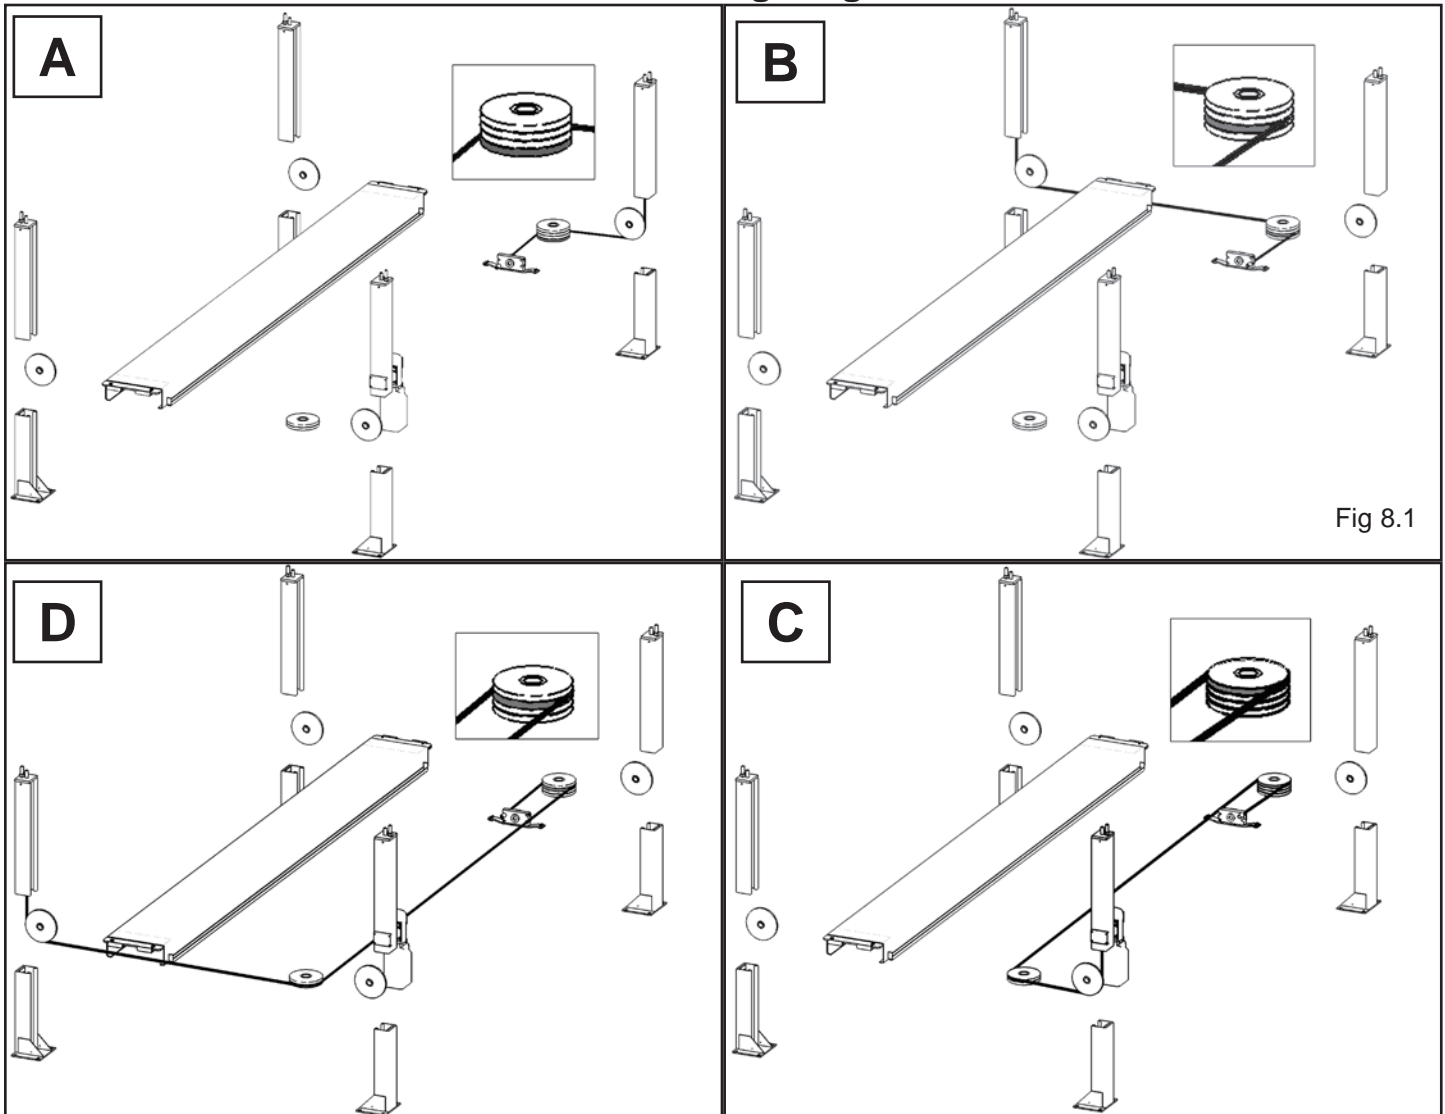

Fig 8.1
2. Review the Cable Routing Diagram below before beginning cable installation. (See Fig. 8.1)